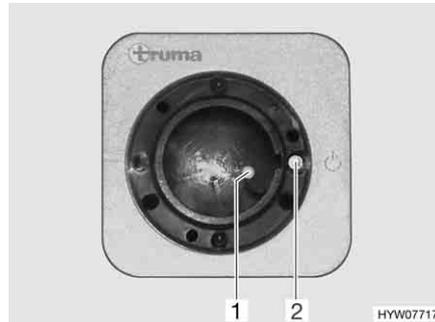
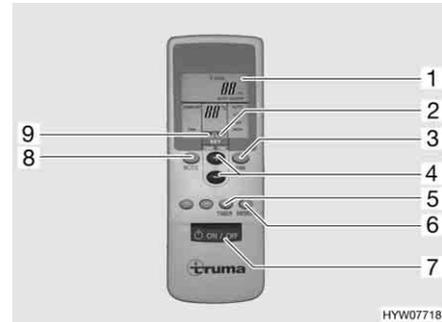

Fig. 154 Receiver
Fig. 155 Remote control
- Switch on the remote control with the switch (Fig. 155,7). The green indicator lamp (Fig. 154,1) indicates cooling mode.
- Set the desired operating mode with the key (Fig. 155,8).
- Set the desired fan output and room temperature with the keys (Fig. 155,3 and 4) if necessary. The arrow (Fig. 155,9) indicates the selected setting mode.
- ▷ An additional key switch (Fig. 154,2) is on the receiver, which can be used to switch the air conditioning unit off or on without remote control. If the air conditioning unit is switched on by means of this key switch, the operating mode set last on the remote control is automatically selected.
- To program, switch on the air conditioning unit with the key (Fig. 155,7) on the remote control.
- Set the desired operating mode and room temperature with the keys (Fig. 155,8, 3 and 4).
- Use the key (Fig. 155,5) to select the desired function (Fig. 155,1):
- Use the keys (Fig. 155,4) to select the desired switching time (1 to 15 hours). The arrow (Fig. 155,2) flashes and indicates the setting mode.
- ▷ The key (Fig. 155,6) is used to send the settings of the remote control repeatedly to the receiver.